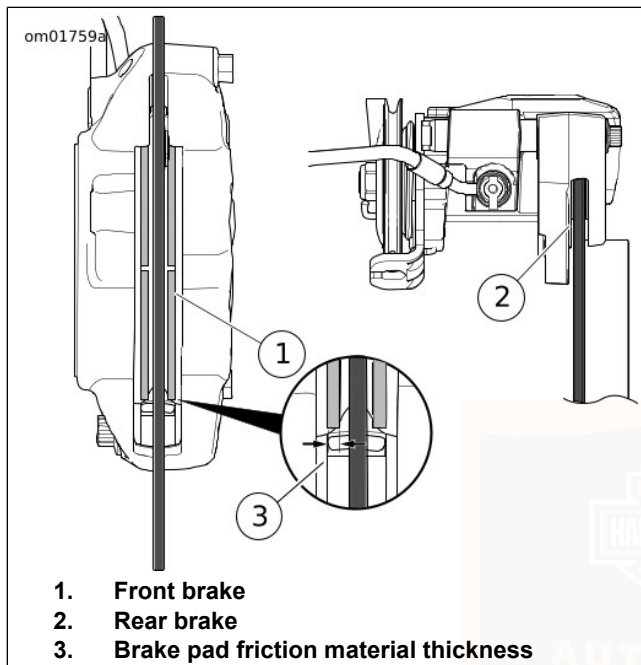

Figure 63. Brake Friction Material
2. See Figure 63. Check the brake disc or rotor as it spins. The disc/rotor should run true in the brake caliper.